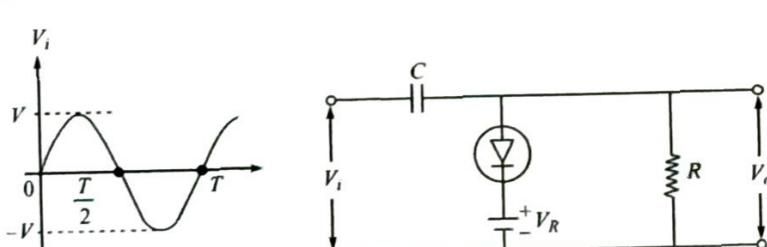

Figure 2.37
**PROBLEM 2.23:** Draw the output waveform for the circuit shown in Fig. 2.37.